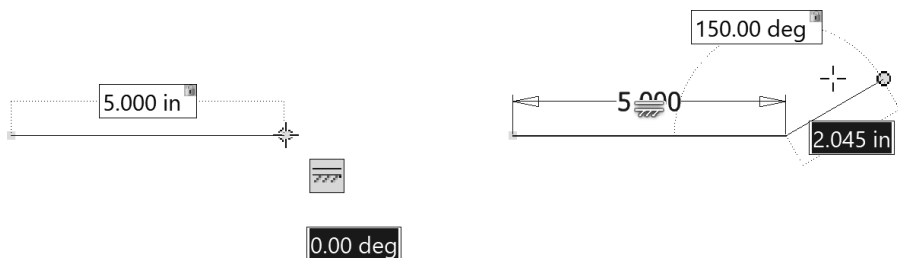

Figure 2.67
- 3 Use the Line command from the Sketch tab > Create panel. Draw a line starting from the origin point, then move the cursor to the right, type **5** in the distance input. Press Tab and click a point when the horizontal constraint shows below the degrees input field as shown in Figure 2.67 left.
- 4 Next place an angled line and a dynamic dimension to define the angle. Press Tab and type **150** for the angle input, press the Tab key, and then click a point to the upper right as shown in Figure 2.67 right. The distance should be about 2 inches but the dimension is not needed to define this sketch.